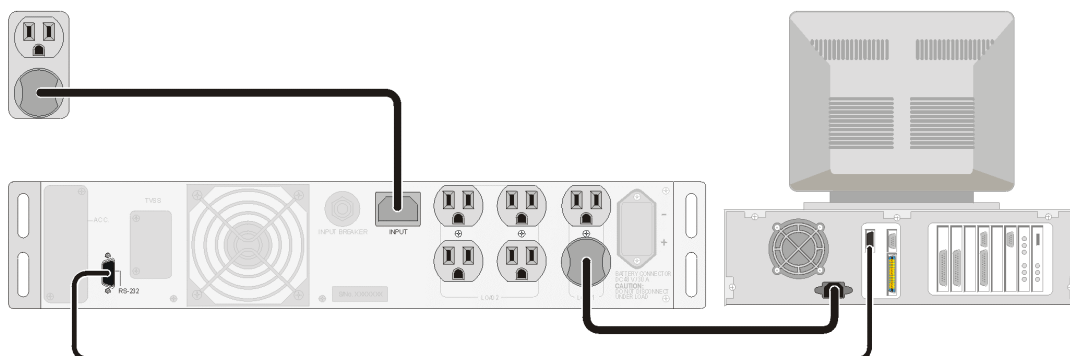

Fig 2.6 Connecting the UPS to the utility supply and to the load
Connect the interface signal cable between the RS-232/dry contact port on the rear panel of UPS and COM1 or COM2 of your computer if necessary. See fig. 2.6. Refer to chapter 4 for more information.
2. Plug the power cord of the equipment into the output receptacles on the rear panel of the UPS as shown in fig. 2.6. Spread the load over the output receptacles as equally as possible.
Use a suitable power cord, and plug it into the input socket (see fig. 2.6)